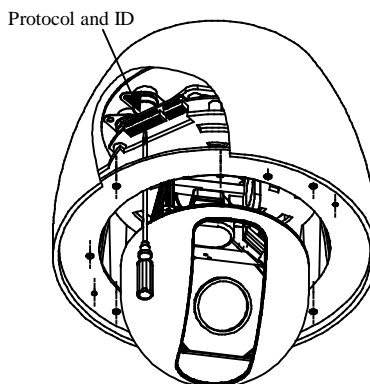

Fig. 1
Note: Protocol and ID code (fig. 1)
① Disassemble the outdoor flange and dome housing with wrench. Decide the protocol and ID code (fig.1), and mount the dome housing as following.
② Fix the wall bracket and connect it with outdoor flange with screws and wrench. Tighten the screws as following.
③ Connect all the cables as required.
④ Mount the Safety Hanging-Lock of the outdoor flange on the outdoor speed dome. Aim the guide pin of mounting base at the longest curved chute of outdoor flange. Fix the speed dome on the outdoor flange. Tighten the screw as following.
① Disassemble the Outdoor Flange and dome housing with wrench. Decide the protocol and ID code(fig.1) and mount the dome housing as following.
② Mount the power box on a solid ceiling. Mount the wall bracket on the power box.
③ Fix the wall bracket to the outdoor flange with screws and wrench. Tighten the screws as following.
④ Connect all the cables as required.
⑤ Mount the Safety Hanging-Lock of the outdoor flange on the outdoor speed dome. Aim the guide pin of mounting base at the longest curved chute of outdoor flange. Fix the speed dome on the outdoor flange. Tighten the screw as following.
- ① Disassemble the Outdoor Flange and dome housing with wrench. Decide the protocol and ID code(fig.1), and mount the dome housing as following.
- ② Fix the ceiling bracket and connect it with outdoor flange with screws and wrench. Tighten the screws as following.
- ③ Connect all the cables as required.
- ④ Mount the Safety Hanging- Lock of the outdoor flange on the outdoor speed dome. Aim the guide pin of mounting base at the longest curved chute of outdoor flange. Fix the speed dome on the outdoor flange. Tighten the screw as following.
- ① Disassemble the outdoor flange and dome housing with wrench. Decide the protocol and ID code (fig.1), and mount the dome housing as following.
- ② Fix the wall bracket and connect it with outdoor flange with screws and wrench. Tighten the screws as following.
- ④ Mount the Safety Hanging-Lock of the outdoor flange on the outdoor speed dome. Aim the guide pin of mounting base at the longest curved chute of outdoor flange. Fix the speed dome on the outdoor flange. Tighten the screw as following.
- ① Disassemble the outdoor flange and dome housing with wrench. Decide the protocol and ID code(fig.1), and mount the dome housing as following.
- ② Fix the pole bracket and mount it to the wall bracket with screws. Mount the outdoor flange to the wall bracket. Tighten the screws as following.
- ④ Mount the Safety Hanging-Lock of the outdoor flange on the outdoor speed dome. Aim the guide pin of mounting base at the longest curved chute of the outdoor flange. Fix the speed dome on the outdoor flange. Tighten the